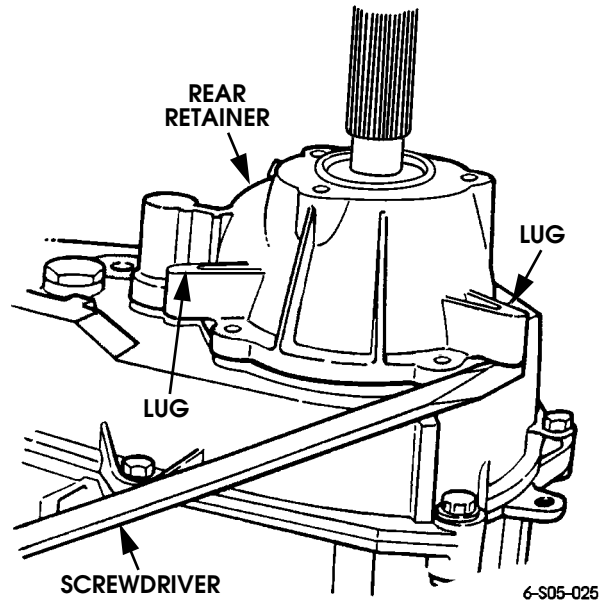

Figure 5-88: Rear Retainer Removal
6. Pry rear retainer upward at each lug with screwdriver (Figure 5-88). Remove retainer after breaking sealer bead.